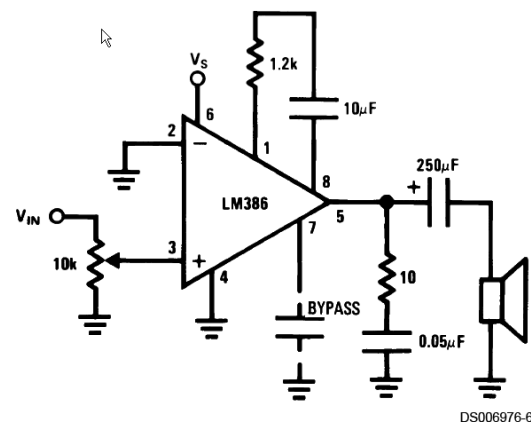

Figure 3.17: audio amplifier schematic with a gain of 50. A short across the 1.2k Ω resistor would result in a gain of 200. (from the datasheet)
- You might wish to change the connecting parts between pins 1 and 8 to vary the gain (see Figure 3.17).